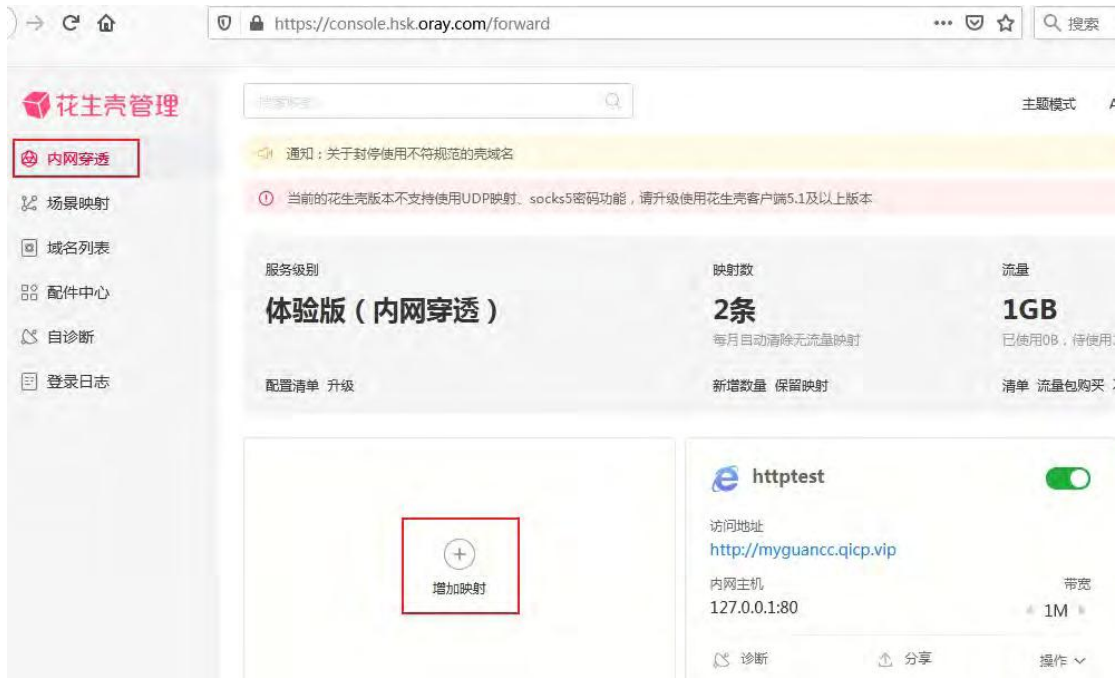

Figure 4-44 Add mapping page
5. Click intranet penetration on the left, and click Add Mapping, as shown in Figure 4-44